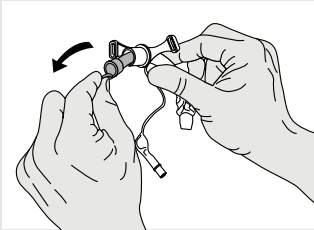

Figure 1
5. Remove inner cannula. **(Figure 1)**